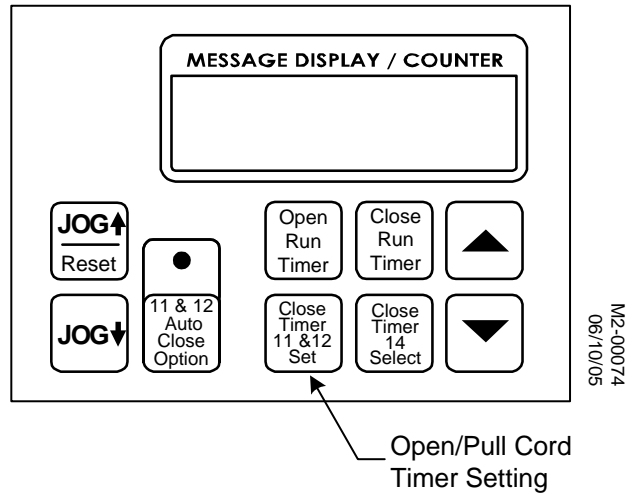

Figure 3-19: Auto Close Timer Setting
1. Press the **CLOSE TIMER 11 & 12** button on the DYNALOGIX controller. The current countdown time displays in the LCD. See Figure 3-19.